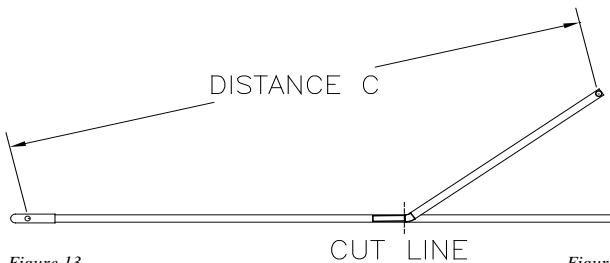

Figure 13
Secure the elbow (S) and bottom tension control arm (N) together by drilling a 3/8" holes through them 4" down from the elbow (see figure 13). Fasten together with 3/8"x1-3/4" bolt and lock nut with the head of the bolts to the inside of the angle.